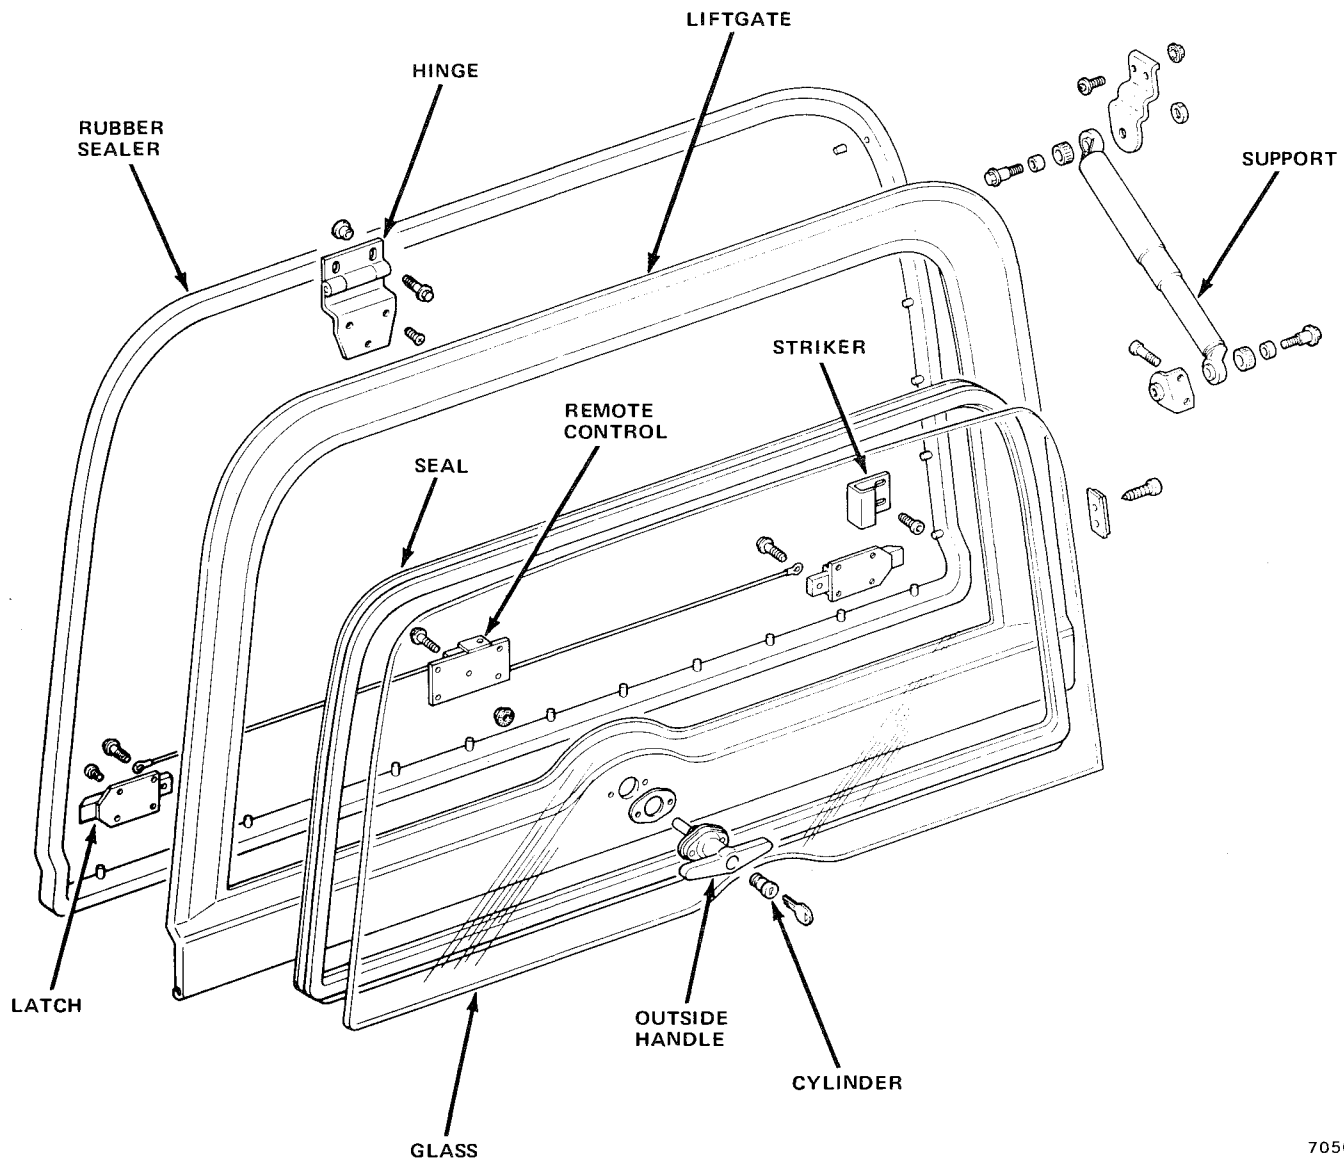

Fig. 3H-1 Liftgate Components
(1) Unlock rubber weatherstrip (fig. 3H-1) using wood wand or fiber stick.
(2) Use fiber stick to break seal between glass and rubber weatherstrip.
(3) Push glass and weather strip toward outside of vehicle. Remove glass.
(4) Remove weatherstrip from liftgate opening.
(5) Inspect weatherstrip and clean sealer from glass cavity and flange cavity.
(1) Loosen screws attaching remote control cables to latch. Disconnect cables from screws.
(2) Remove screws attaching remote control (fig. 3H-1) to liftgate using Torx Bit Tool J-25359-02.
(3) Position remote control on liftgate and install attaching screws using Torx Bit Tool J-25359-02.
(4) Connect remote control cables to latch screws and tighten screws.
(1) Loosen screw attaching remote control cable to latch. Disconnect cable from screw.
(2) Remove screws attaching latch (fig. 3H-1) to liftgate using Torx Bit Tool J-25359-02. Remove latch.
(3) Position latch on liftgate and install attaching screws using Torx Bit Tool J-25359-02.
(4) Connect remote control cable to latch screw and tighten screw.